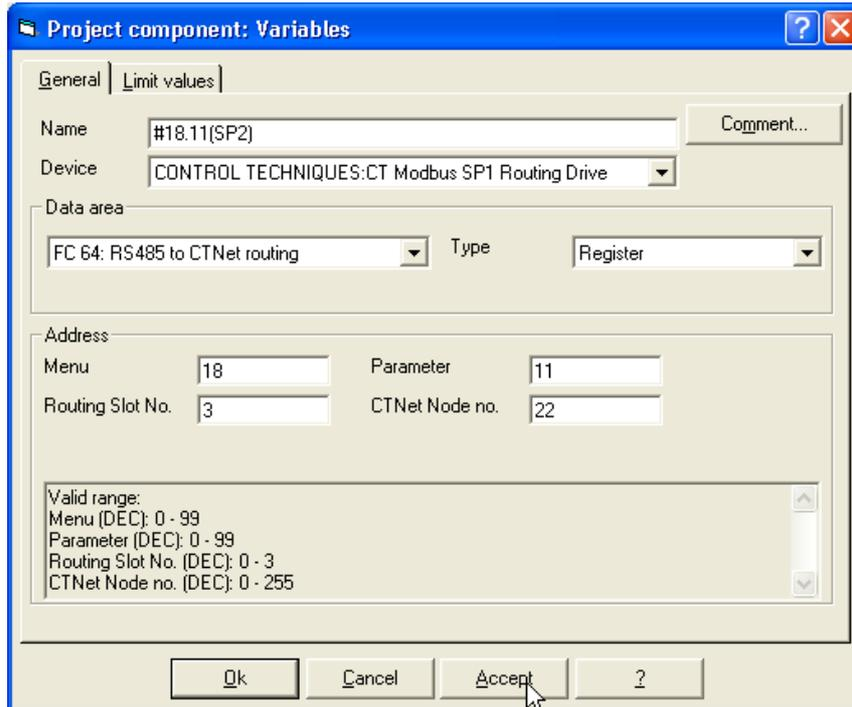

Fig. 13.
3.12 For #18.11(SP2) variable see Fig. 13